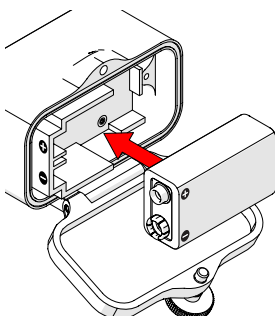

Fig. 35 - Place 9V battery in housing
3. Place the new 9V NEDA 1604 battery into the battery compartment. Ensure the polarity markers match (*Fig. 35*).